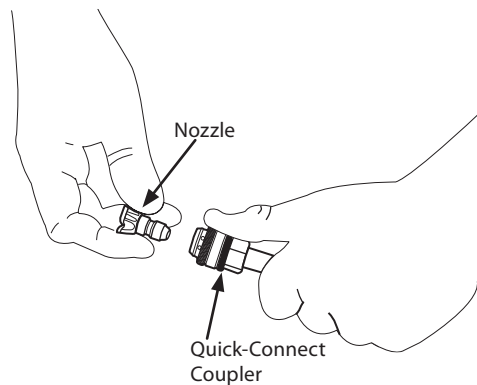

Figure 5-6
2. Release quick-connect coupler and twist nozzle to make sure it is secure in coupler. See Figure 5-6.